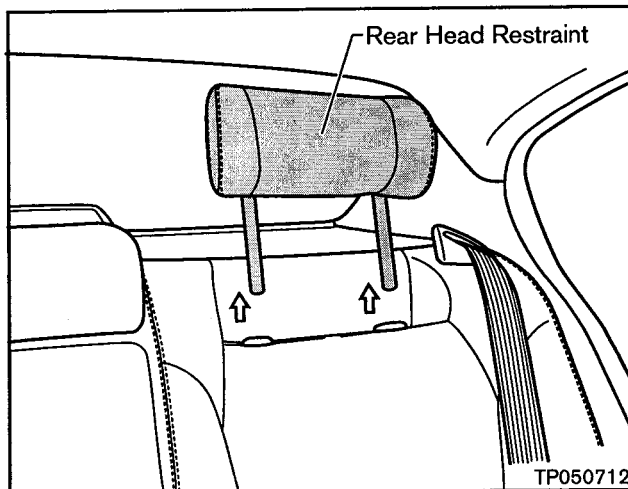

Figure 5a
- a. Remove the rear Head Restraint (see Figure 5a) and place it in a clean, safe location.